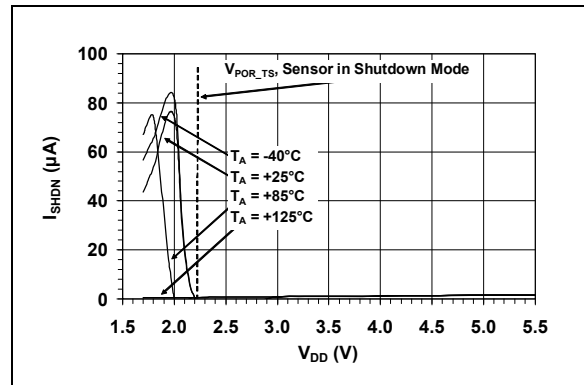

FIGURE 2-15: Shutdown Current vs. V_{DD} .
- Note 2:** For V_{DD} ranges of 1.8V to the temperature sensor V_{POR_TS} , the temperature sensor becomes partially biased and consumes 80 μA (typical) until the sensor POR resets and acknowledges a shutdown command. See Figure 2-15.